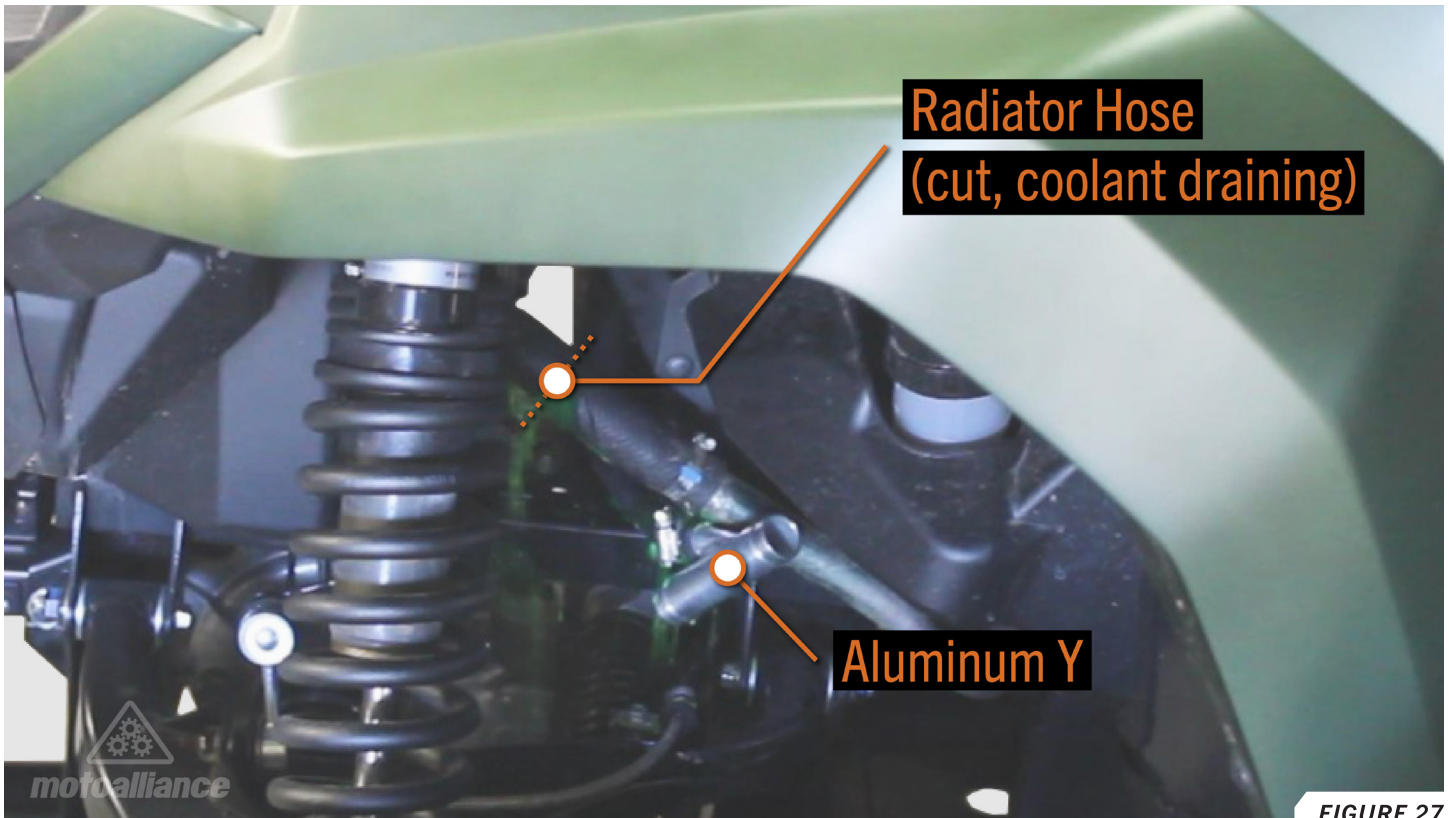

FIGURE 27
67. Verify that the 1" aluminum Y will fit as shown under the front left wheel-well, then cut the radiator hose. If you have hose pliers, use them to clamp the radiator hose and prevent coolant loss. If hose pliers are not available, then drain the coolant into a bucket. **FIGURE 27**